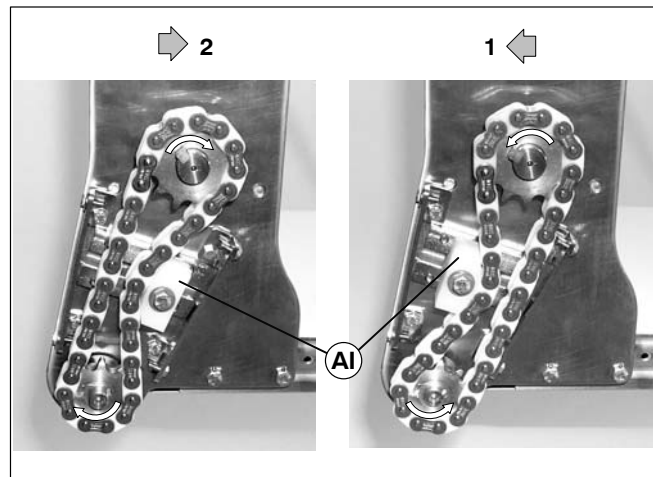

Figure 25
3. Loosen four set screws (AH) and (AK).
4. Remove timing chain (AG) and sprockets (AE and AF) from conveyor input shaft (U) and gearmotor output shaft (AJ). Make sure to retain sprocket keys.
5. Depending on conveyor belt travel (direction 1 or 2 of Figure 25), locate timing chain tensioner (AI) as shown. Do not tighten tensioner screw.